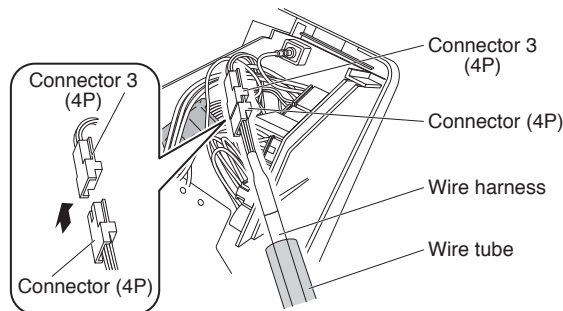

**Fig. 4b**
- When feeding the wire harness through the opening, be careful of the motor cable and be sure to feed the wire harness and motor cable together through the opening. (Fig. 4b)